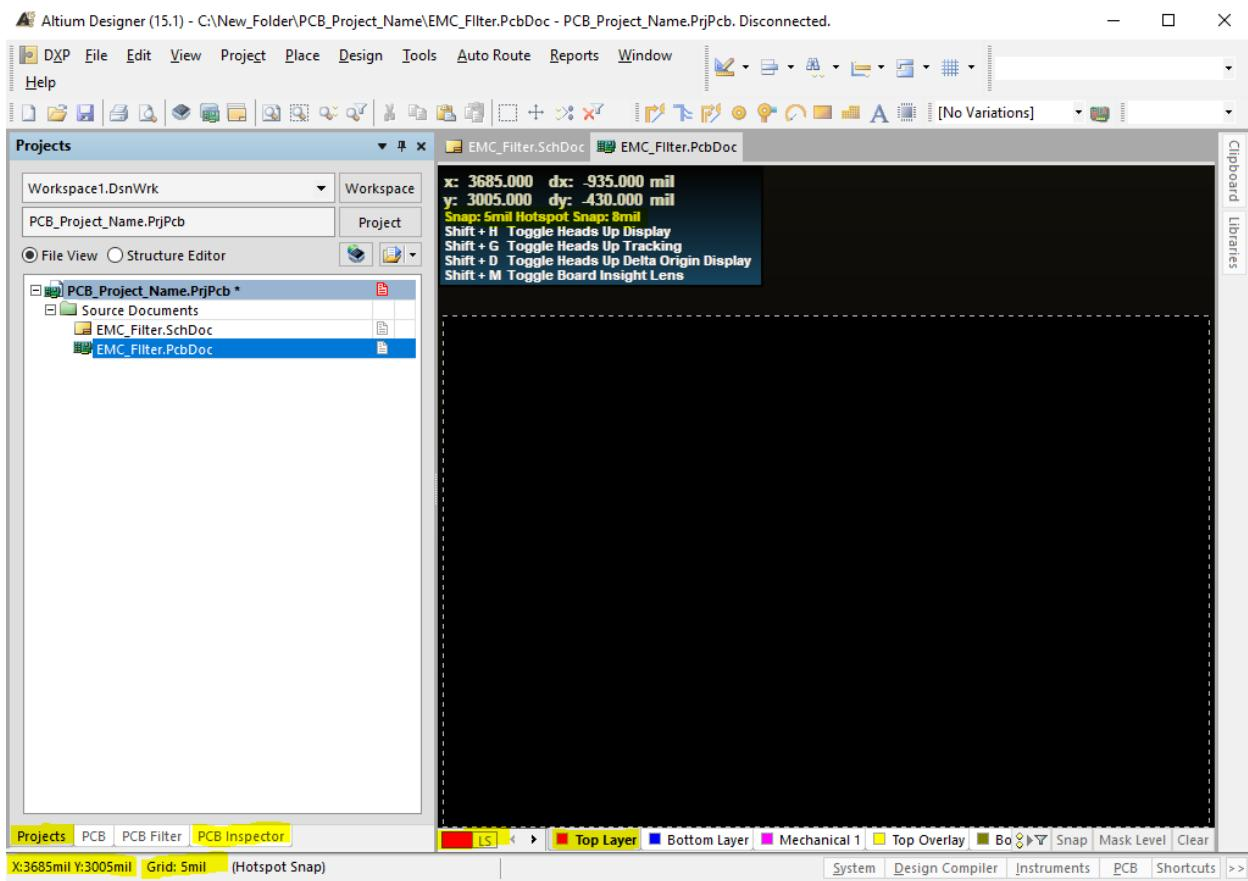

Figure 68: Altium PCB empty PCB document.
41. Next, save the document with an appropriate name by pressing CTRL+S as suggestion because you design an EMC filter chose EMC Filter and your screen should look as shown in Figure 68. Notice the yellow highlighted features, as the heads up display with short cuts shown on the top left of the PCB document. On the bottom left there is the Project view which aids to open and close documents. Right next to it is PCB Filter View as well as PCB Inspector which works the same as the SCH Inspector discussed in previous section. Below of those are the X and Y courser position measured from the reference point. Left to that one of the more important ones the grid selection which is recommended to set to **10 mils** as minimum which helps to avoid unnecessary rule violations. Right to that is a field highlighted **LS** which stands for **Layer Set** by clicking on it the View Configuration opens as introduced previously in the PCB library document.